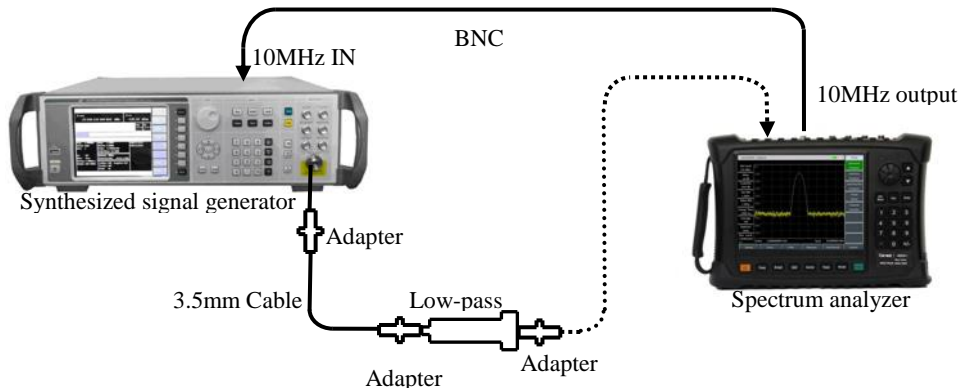

Fig. 12-9 Setting of Second Harmonic Distortion Test
- 1) Connect the test instrument as shown in Fig. 12-9. The spectrum analyzer will provide the 10MHz frequency reference for the synthesized signal generator. Use the 1GHz low-pass filter.
- 7) Connect the test instruments as shown in Fig. 12-9. Use the 6.8GHz low-pass filter.
13) Connect the test instruments as shown in Fig. 12-9. Use the 18GHz low-pass filter.